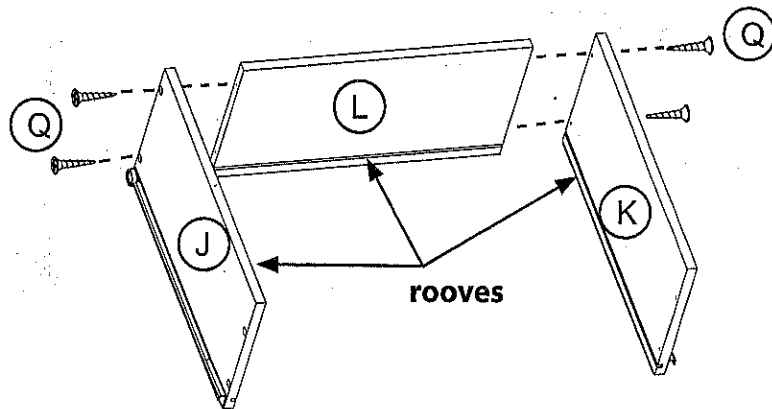

Figure 4
Working on a padded flat surface, attach Drawer Sides Panel (J & K) to Drawer Back Panel(L) with 4pcs Wood screw(Q) & 4pcs Wood Dowel(T), As shown in **Figure 4**